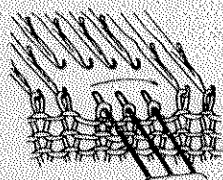

Fig. 80
- 2) Use the 3 needle transfer tool, start in from either end, transfer all the stitches outward in either direction until the required needle is free. (See Fig. 80)